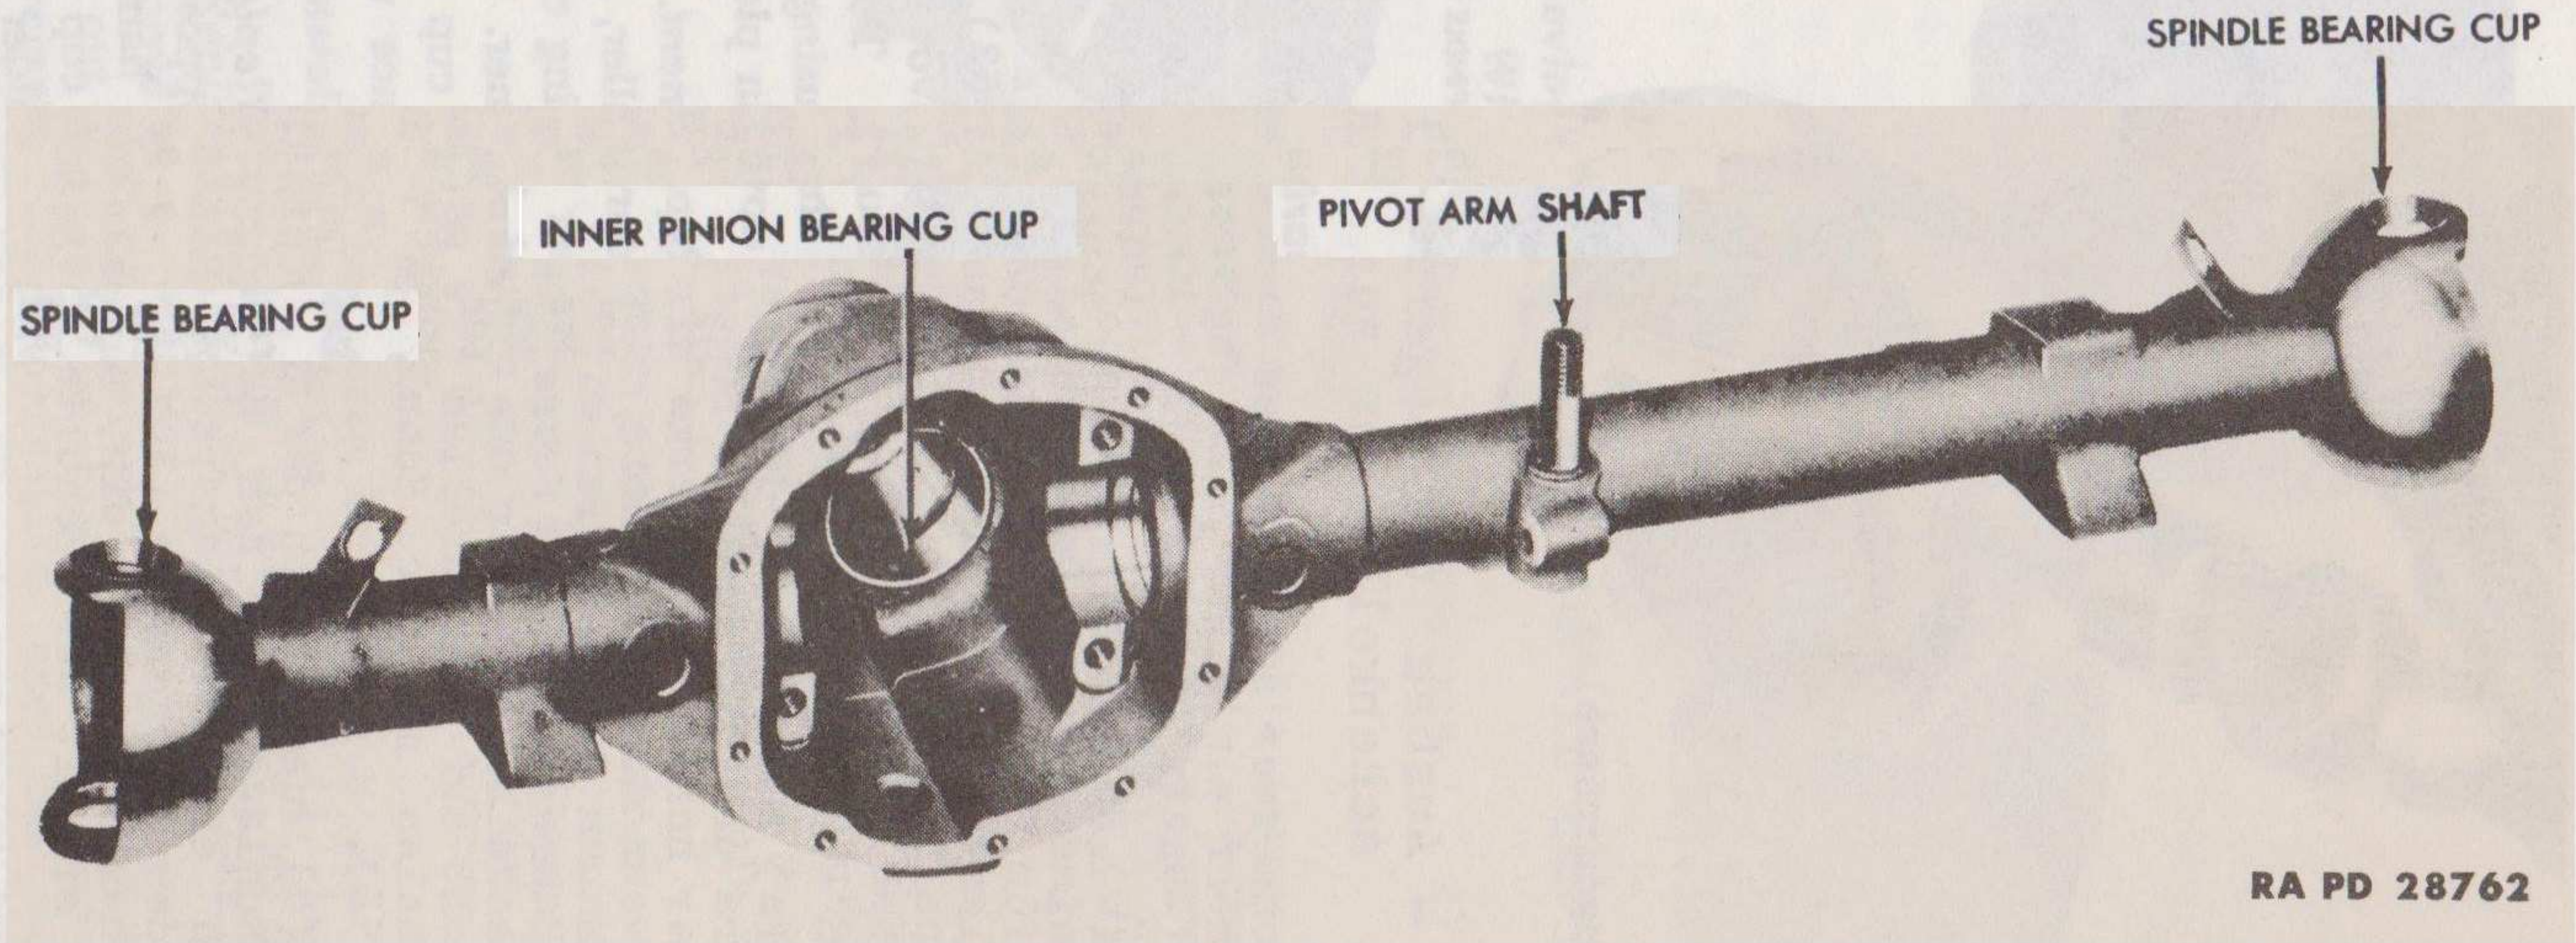

Figure 53 — Front Axle Housing
(1) **AXLE HOUSING (fig. 53).**
(b) *Pivot Arm Shaft Replacement* (fig. 53). With a long nosed drift, drive out the dowel that secures the pivot arm shaft to the axle housing. Tap the shaft out of the housing. To install a new pivot arm shaft, insert it in the bracket on the housing with the dowel slot in line with the dowel hole. Drive dowel in place.